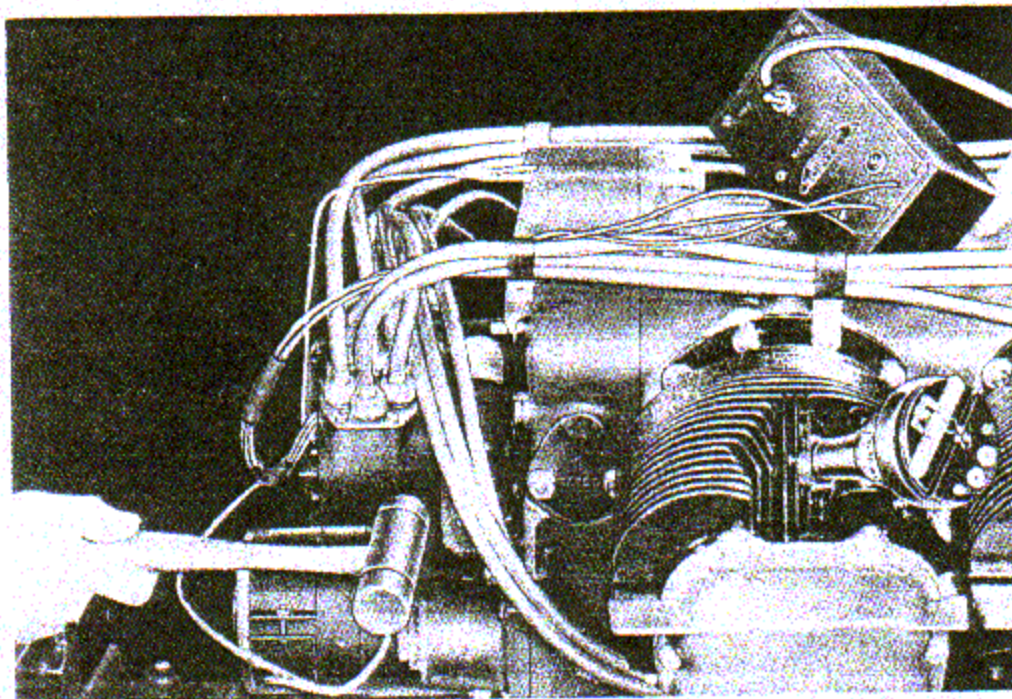

Figure 7-12. Timing Ignition
b. Install a Time-Rite piston position indicator in the No. 1 cylinder upper spark plug hole, with the instrument's white celluloid scale toward the rear of the engine and with the slide slot aligned with the nearest No. 1 rocker cover screw. (See figure 7-12.)
m. Place a Scintilla No. 11-851, or equivalent, timing light so that it can be seen from the magneto installer's position. (See figure 7-12.) Connect the ground lead to the left magneto case and either of
n. Tap the magneto case counterclockwise with a non-marring hammer until the timing light indicates that the breaker points have just opened. (See figure 7-12.) Tighten the magneto attaching nuts moderately to hold this position.